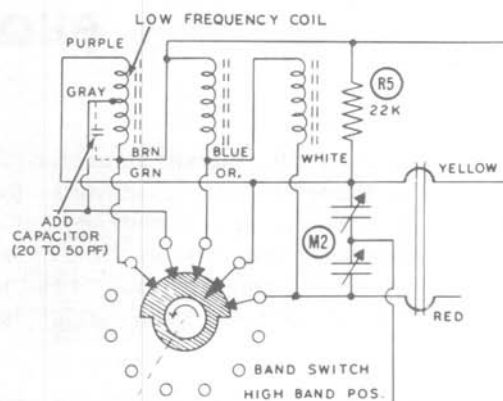

Figure 28
- ( ) Refer to Figure 28 for the oscillator coil circuitry of the Heathkit Models TS-4, TS-4A, and IG-52 Television Alignment Generators.